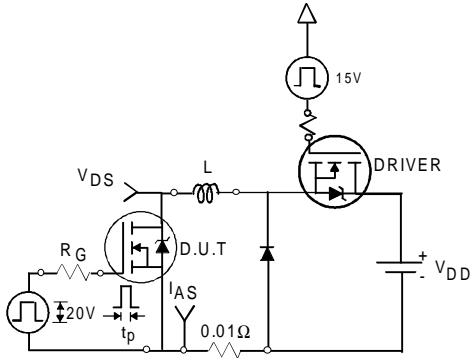

Fig 12a. Unclamped Inductive Test Circuit
- ④ Pulse width $\leq 400\mu s$; duty cycle $\leq 2\%$.
- ⑤ $C_{oss \text{ eff.}}$ is a fixed capacitance that gives the same charging time as C_{oss} while V_{DS} is rising from 0 to 80% V_{DSS} .
- ⑥ Calculated continuous current based on maximum allowable junction temperature. Package limitation current is 75A.
- ⑦ Limited by T_{Jmax} , see Fig.12a, 12b, 15, 16 for typical repetitive avalanche performance.
- ⑧ Uses IRF1407 data and test conditions.
3. Equation below based on circuit and waveforms shown in Figures 12a, 12b.